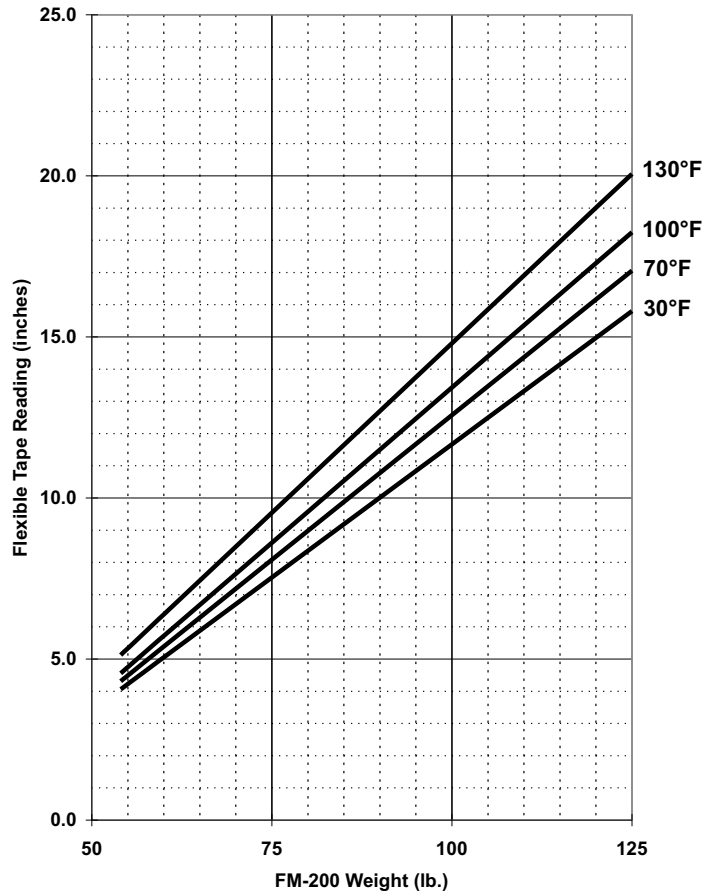
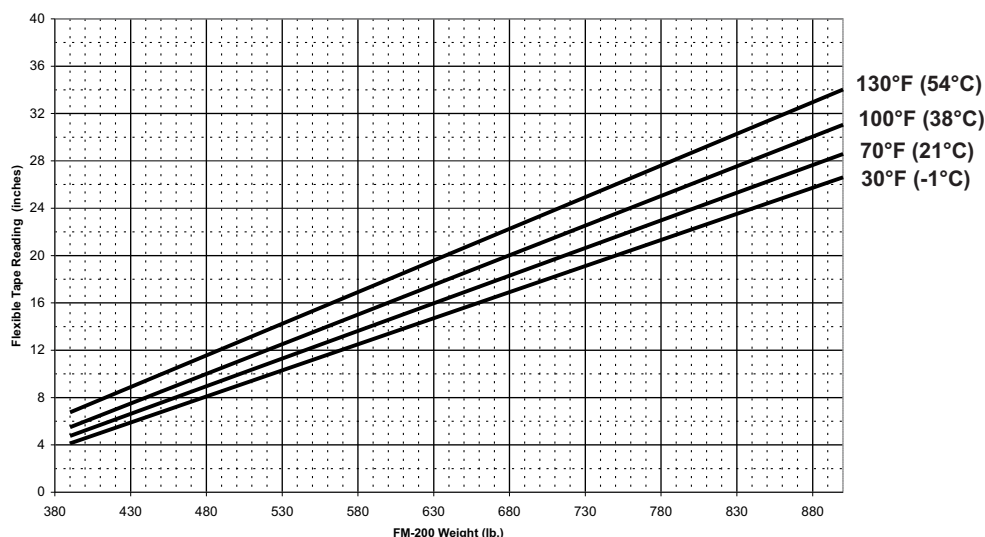

Figure 5-2. Calibration Chart 125 lb. Cylinder
Figure 5-7. Calibration Chart for 900 lb. Cylinder
7. Refer to the appropriate calibration charts (see Figure 5-2 through Figure 5-7) and locate the level reading on the vertical axis (labeled Flexible Tape Reading). Trace horizontally to the right to the appropriate temperature line. Read the weight of FM-200 from the scale at the bottom of the chart. Record the weight and date on the record tag attached to the cylinder.